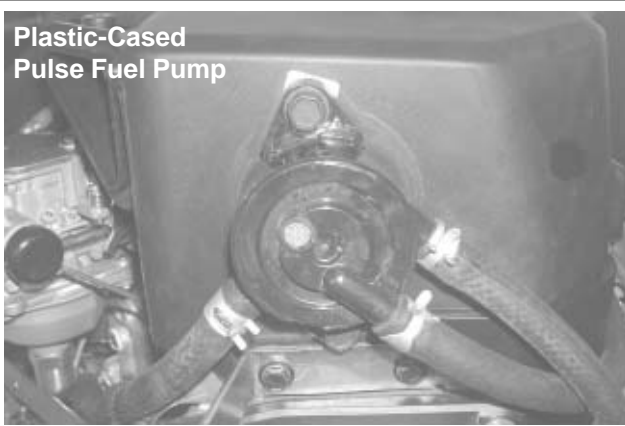

Figure 11-77. Reinstalled Fuel Pump.
1. Install the fuel pump and lines as an assembly. Connect the pulse line to the crankcase vacuum fitting. See Figures 11-77 and 11-78.